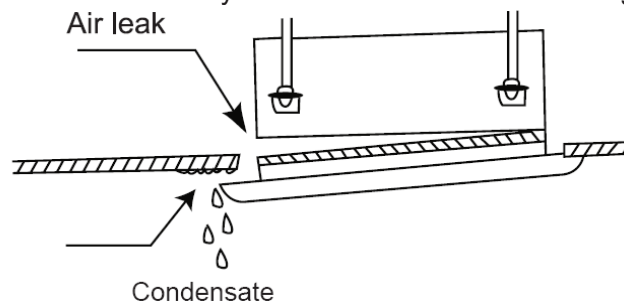

Figure 3-1-32
(7) Improper screwing of the screws may cause the troubles shown in Figure 3-1-32.